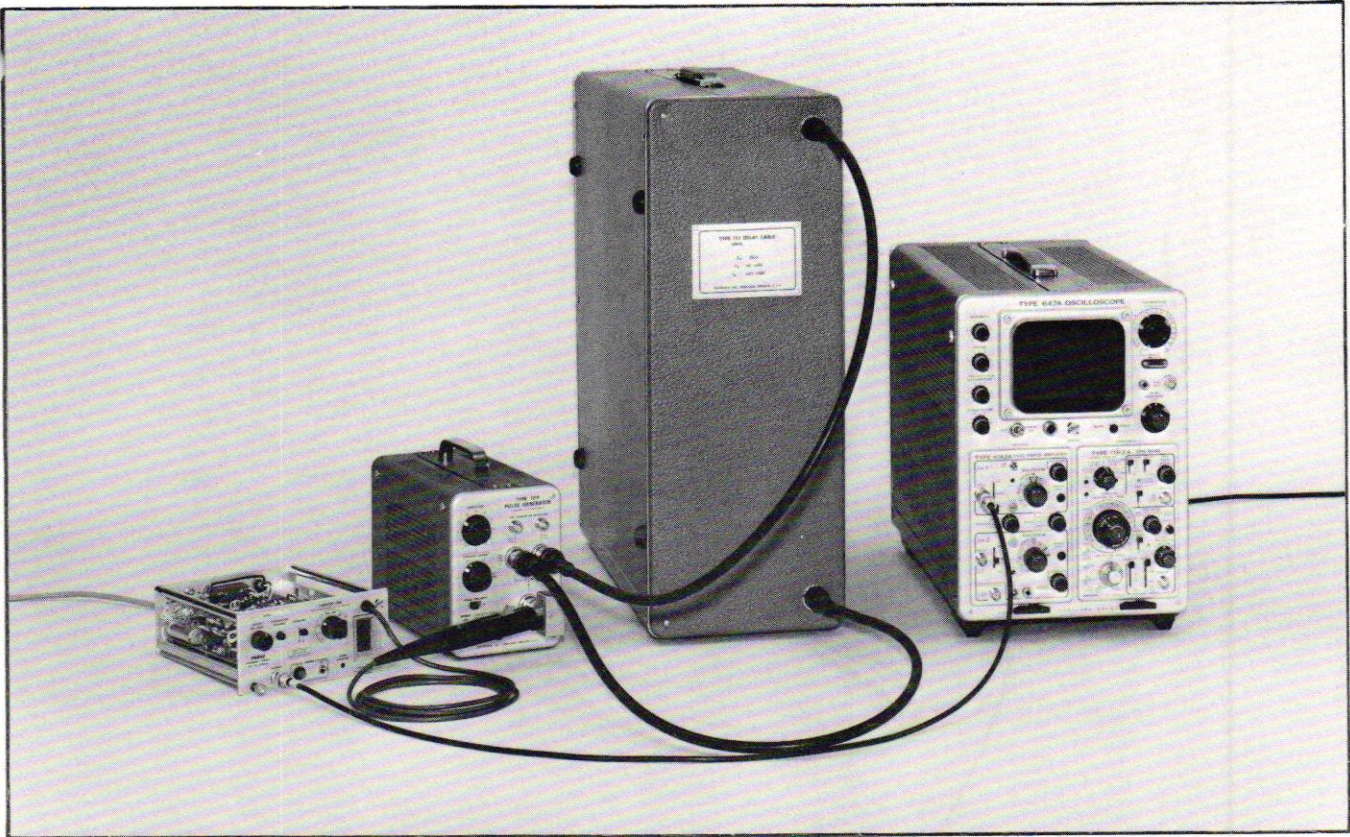

Fig. 6-18. Test setup for step 15.
a. Remove the current loop and probe from the square-wave generator and connect to pulse generator output. Connect the delay cable to the pulse generator charge line connectors, using the two lengths of RG-8A/U. See Fig. 6-18.